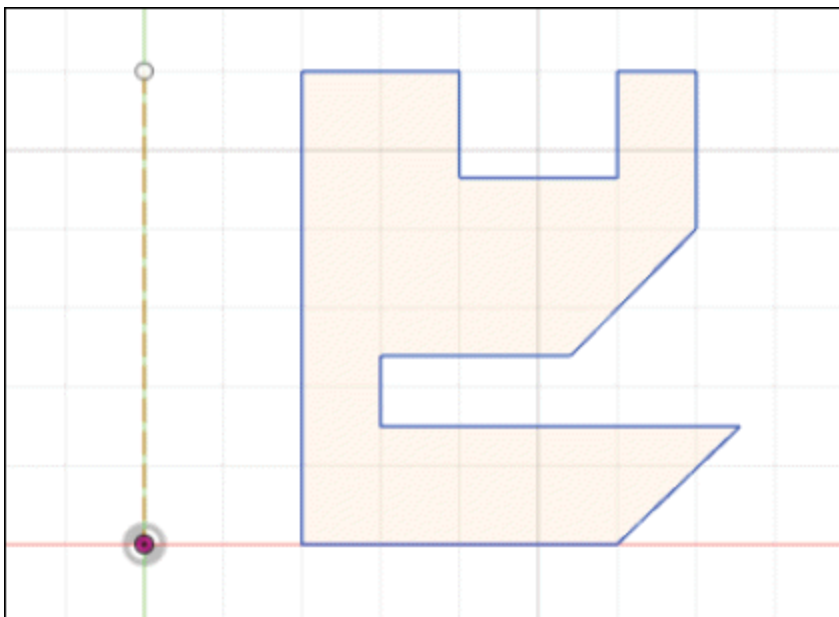

Figure-51. Region selected for revolve
- Click on **Select** button for **Axis** selection from **REVOLVE** dialog box and then select the sketch edge, line, or center line from the screen canvas; refer to Figure-51.